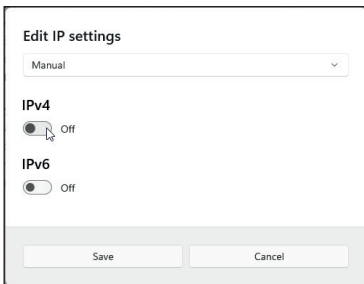

Fig. 6-9: Windows 11, **Edit IP Settings** dialog, IP options
- ☞ Next, enable the required internet protocol (**IPv4** or **IPv6**) (Fig. 6-9).